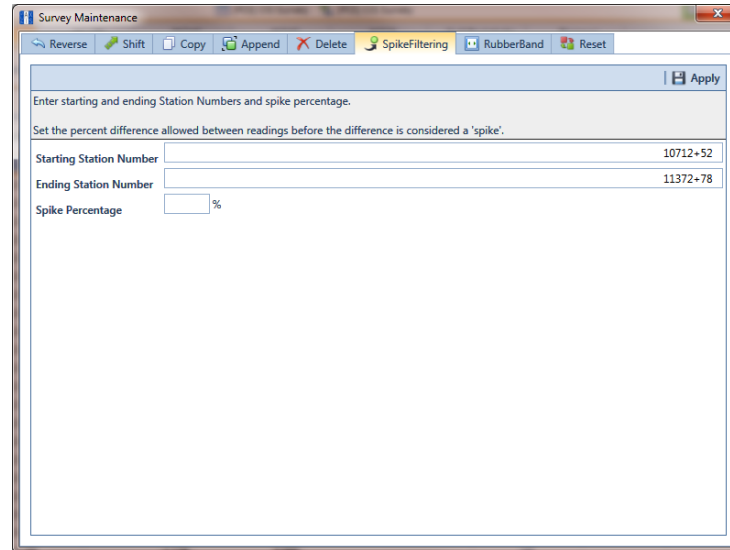

Figure 7-74. Spike Filtering
- 5 Click  **Survey Maintenance** to open the *Survey Maintenance* dialog box. Then click  **SpikeFiltering** (Figure 7-74, page 289).